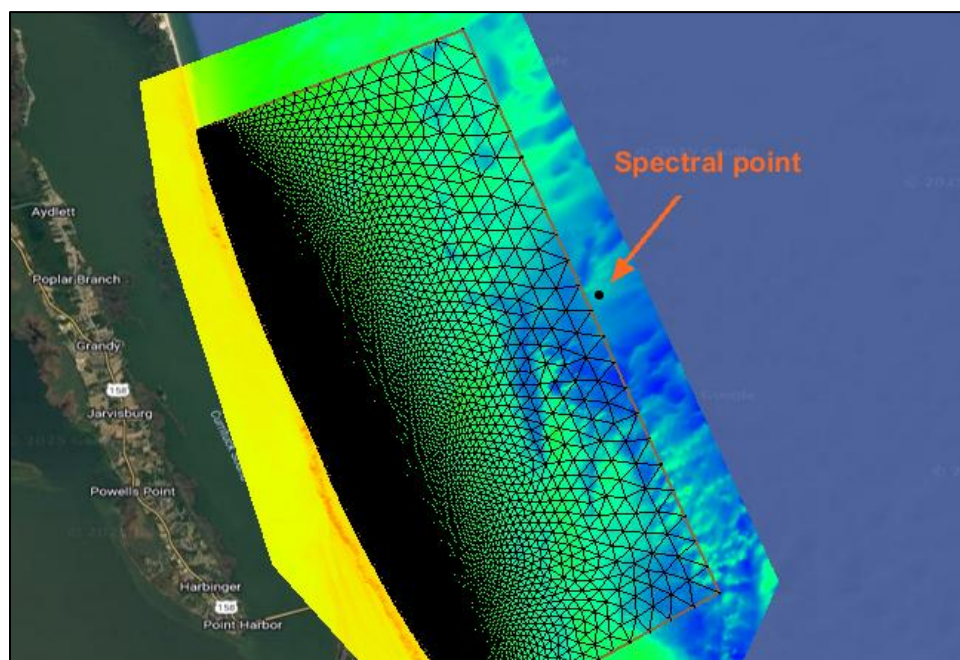

Figure 2 Spectral point general location
1. From the Dynamic tool bar, use the **Create Feature Point**  tool, to create a feature point somewhere near the middle of the offshore boundary in the Graphics Window as in Figure 2.